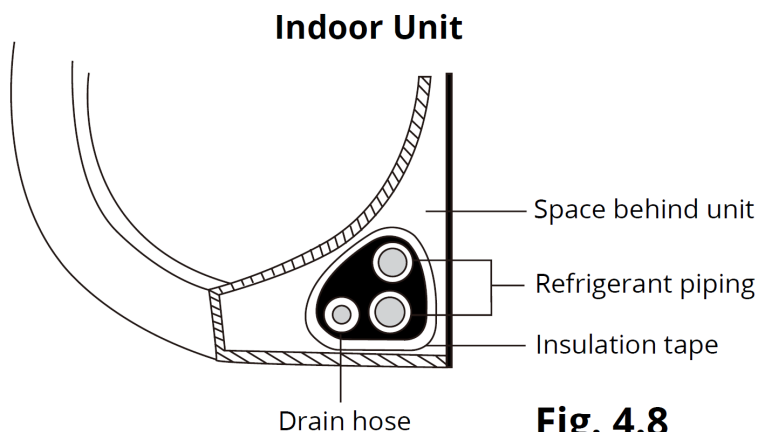

Fig. 4.8
1. Bundle the drain hose and refrigerant pipes according to Fig. 4.8.
3. Using insulation tape, wrap the refrigerant pipes and drain hose tightly together. Double-check that all items are bundled in accordance with Fig. 4.8.